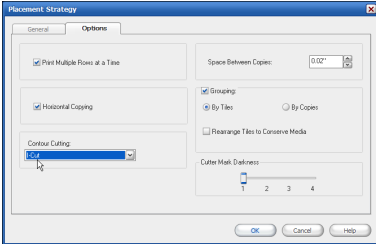

Figure 6—I-Cut Option
3. On the Options tab, select **I-Cut** in the Contour Cutting drop-down menu (see Figure 6).